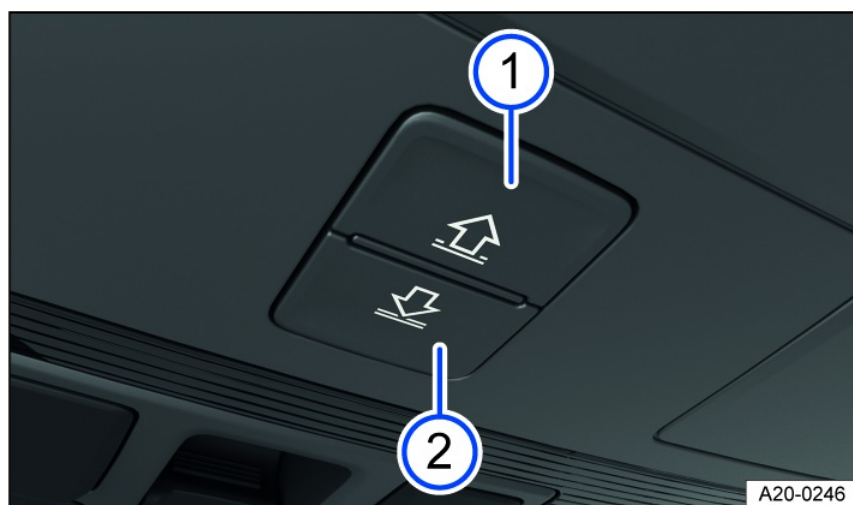

Fig. 100 In the headliner: buttons for controlling the sunshade.
The *fig. 100* and ② buttons have two detents. In the first detent, the sunshade can be opened or closed either completely or partially.
1. Within approximately five seconds after pinch protection is triggered, press and hold the *fig. 100* button until the sunshade is completely closed.